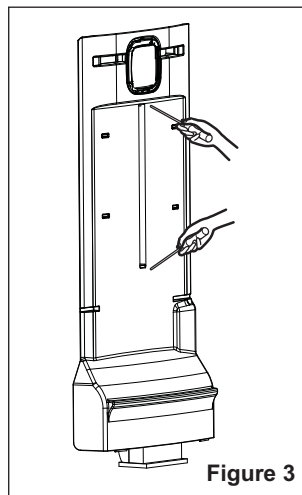

Figure 3
1. Remove the upper and lower caps by using a flat screwdriver, and remove 2 screws. (Figure 3)